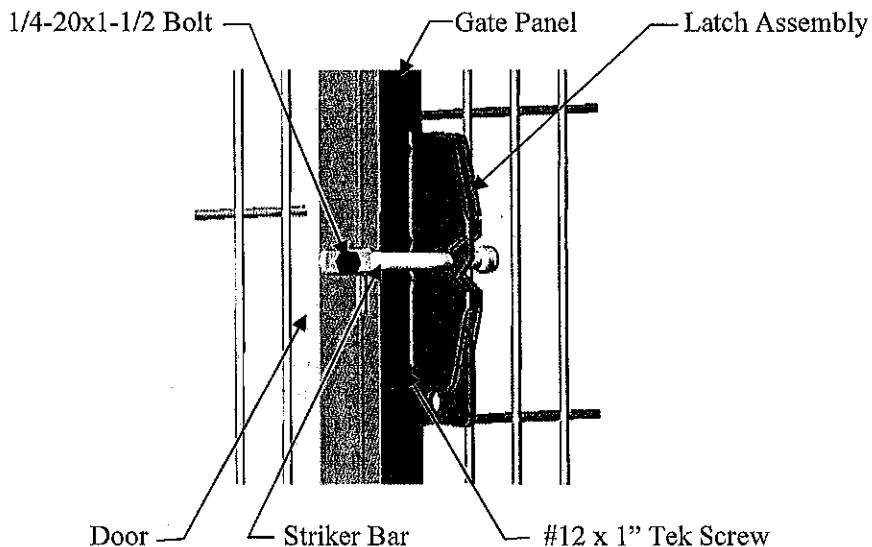

Figure 42
1. Install the Striker Bar to the pre-drilled Door using a 1/4"-20 x 1-1/2 Hex Bolt and 1/4"-20 Nylox Nut (Figure 42). Position the Striker bar into a horizontal position.
2. Hold the Latch Assembly in place against the Gate Panel and close the Door. Make sure to center the Striker Bar within the latch pocket and latch looks straight. Using (4) 1" Tek Screws, mount the Latch Assembly to the Gate Panel (Figure 42 & 42A).